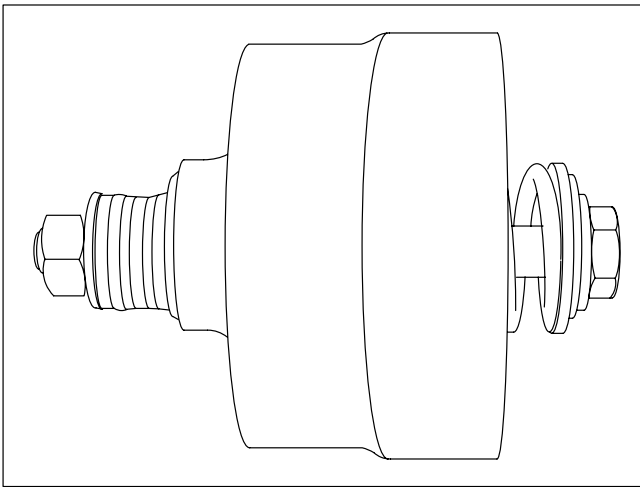

Figure 14. Cylinder block subassembly disassembly tool. (Tighten nut, remove snap ring, loosen nut to relieve spring tension).
The spring located within the cylinder block S/A is under a high tension and can cause bodily harm if the retaining ring is removed. See Figure 14 for disassembly instructions.
- a. Assemble the spring, two washers and retaining ring into the cylinder block. The washer with three notches is assembled next to retaining ring. See Figure 14 for instructions. Set the cylinder block S/A (34) face on a flat clean surface. Use Kraft paper between the block and surface to prevent scratching the cylinder block face.
- b. Install pin retainer (40) into cylinder block. Position the pin retainer approximately 1/4" below the surface, and orient the open end of the pin retainer to be away from the large spline openings.
- c. Slide the three pins (39) into cylinder block S/A (34) until they bottom against the spring washer within the block.
- d. Place spherical washer (41) on top of the three pins, then install shoe plate (42) with nine piston and shoe subassemblies (43) over spherical washer (41) and into cylinder block. Wobble shoe plate (42) to make sure that each piston is free within its bore in the cylinder block.
- e. Set housing (27) on its side and hold pump shaft (48) horizontal. Slide rotating group into the housing. Rotate the shaft to match the shaft splines to the cylinder block and spherical washer.
5. If alignment pins (31) were removed, install two alignment rollpins (31) into housing (27). Place gasket (30) over the rollpins, cover with Kraft paper and set aside for final assembly.